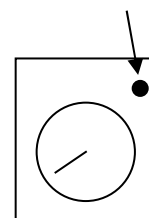

Figure 1
5. After the chamber pressure arrival you set-up. The LED of sterilization timer (See figure 1) turn to "flash" that means the sterilization timer starts work Then the LED light on. This means the sterilization timer finished working then starts the dry timer.
6. The LED of dry timer (See figure 1) turn to "flash" that means the dry timer starts work. Then the LED light on. This means the dry timer finished working then the buzzer start working